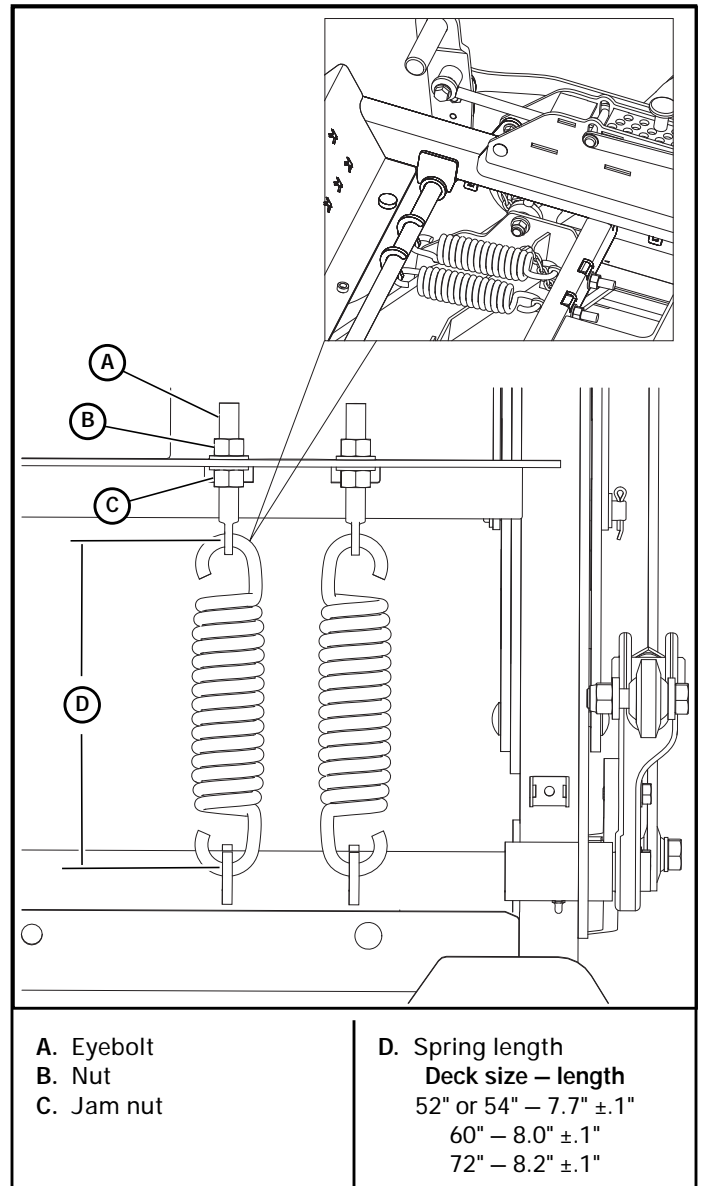

Figure 8-4
- Adjust the deck lift assist spring tension by turning the nut until the spring length from the inside of one hook to the inside of the other hook matches the length indicated in the table. Tighten the jam nut once the distance is set. Figure 8-4